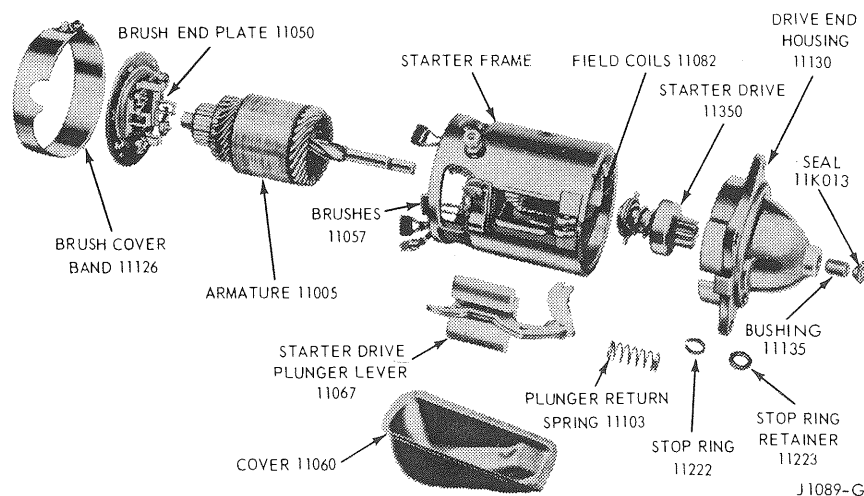

FIG. 8 Starter Disassembled
Use the following procedures when it becomes necessary to completely overhaul the starter. Figure 8 illustrates a partially disassembled starter.
2. Position the coils and pole pieces, with the coil leads in the terminal screw slot, and then install the retaining screws (Figure 8). As the pole shoe screws are tightened, strike the frame several sharp blows with a soft-faced hammer to seat and align the pole shoes, then stake the screws.
1. Loosen and remove the brush cover band and the starter drive plunger lever cover (Figure 8).
1. Install the new starter terminal, insulator, washers, and retaining nut in the frame (Figure 8). Be sure to position the slot in the screw perpendicular to the frame end surface.